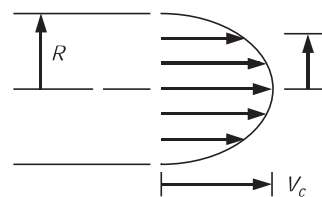

FIGURE P6.128
- 6.128** A pipe of radius R has a fully developed laminar flow of air at P_0 , T_0 with a velocity profile of $\mathbf{V} = \mathbf{V}_c [1 - (r/R)^2]$, where \mathbf{V}_c is the velocity on the center-line and r is the radius, as shown in Fig. P6.128. Find the total mass flow rate and the average velocity, both as functions of \mathbf{V}_c and R .